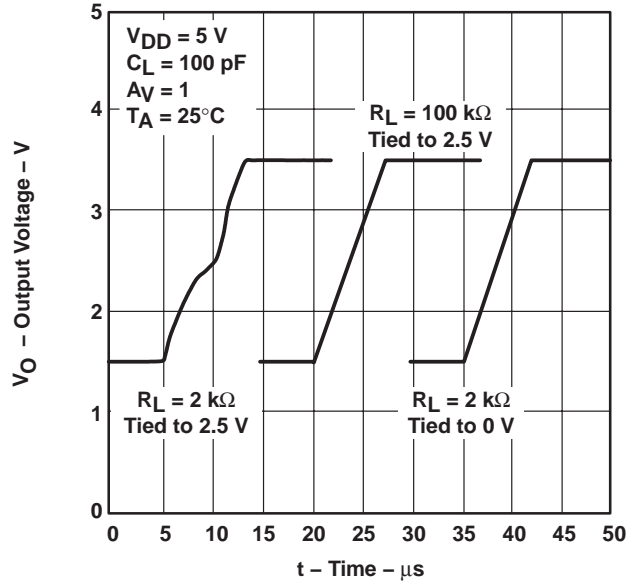

Figure 39
- Where the load is referenced. When the load is referenced to either rail, this condition does not occur. The distortion occurs only when the output signal swings through the point where the load is referenced. Figure 39 illustrates two 2-k Ω load conditions. The first load condition shows the distortion seen for a 2-k Ω load tied to 2.5 V. The third load condition in Figure 39 shows no distortion for a 2-k Ω load tied to 0 V.
- Load resistance. As the load resistance increases, the distortion seen on the output decreases. Figure 39 illustrates the difference seen on the output for a 2-k Ω load and a 100-k Ω load with both tied to 2.5 V.